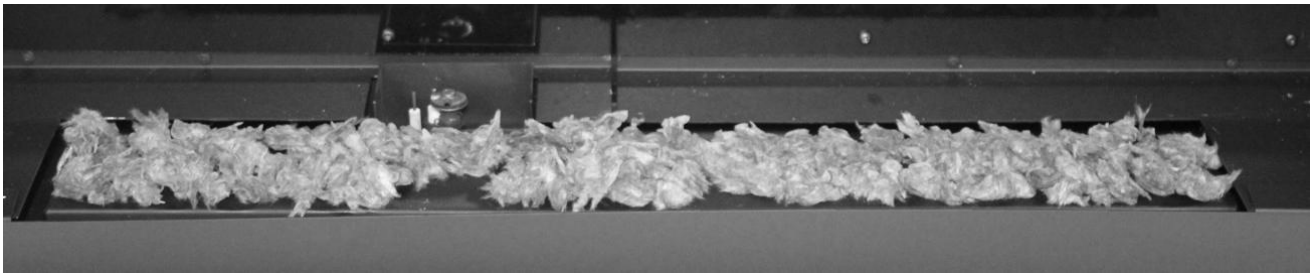

Figure 37 - Placement of Rock Wool on Burner
2. Distribute one layer of rock wool to cover the entire burner (See *Figure 37*).